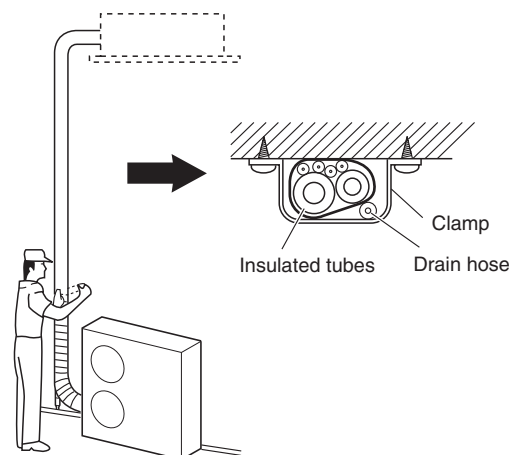

Fig. 5-8
- (1) At this time, the refrigerant tubes (and electrical wiring if local codes permit) should be taped together with armoring tape in 1 bundle. To prevent condensation from overflowing the drain pan, keep the drain hose separate from the refrigerant tubing.
- (2) Wrap the armoring tape from the bottom of the outdoor unit to the top of the tubing where it enters the wall. As you wrap the tubing, overlap half of each previous tape turn.
- (3) Clamp the tubing bundle to the wall, using 1 clamp approx. each meter. (Fig. 5-8)